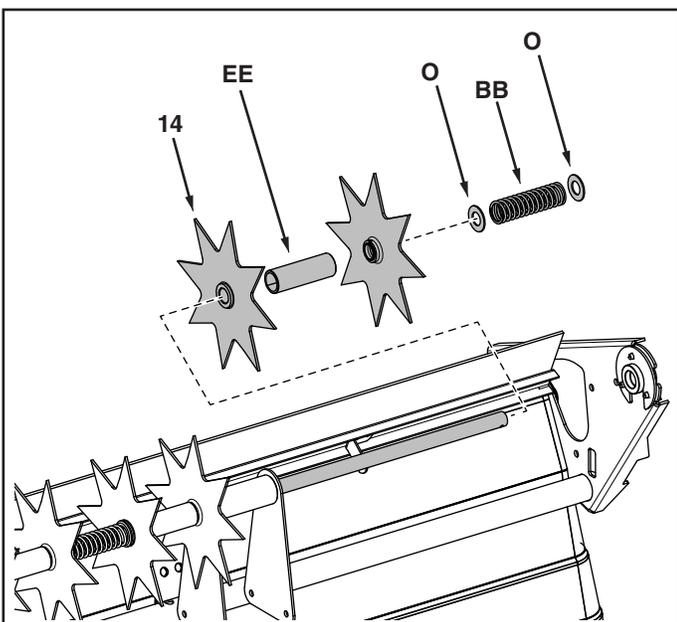

FIGURE 10
12. Assemble two spike disks (14) and a 2.9" spacer (EE) onto the axle. The flat side of the disks should face away from the spacer. See figure 10.
13. Assemble two 5/8" washers (O) and a spring (BB) onto the axle. See figure 10.